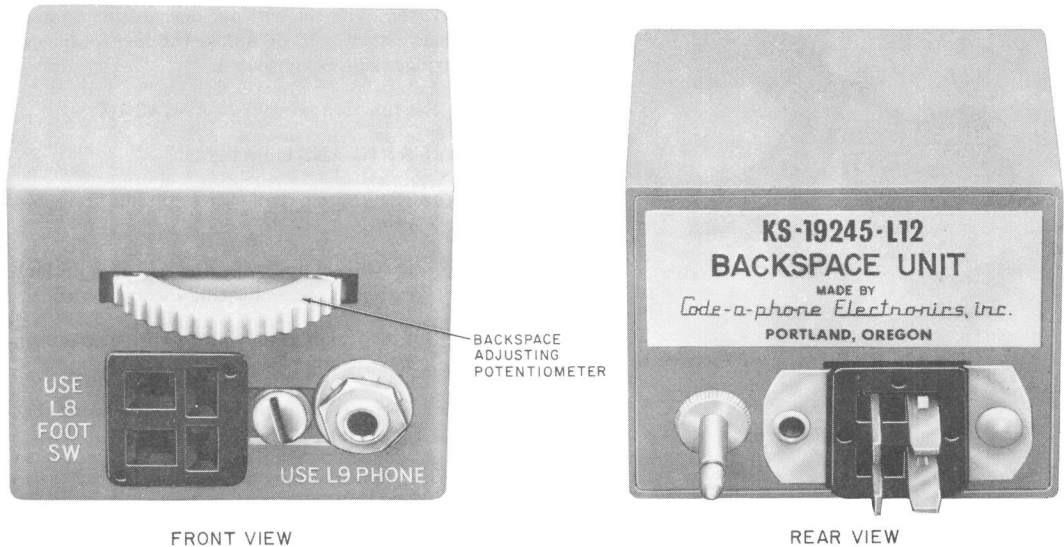

Fig. 19—KS-19245, List 12 Backspace Unit
(Fig. 19), allows automatic backspacing of the message tape a few words each time the playback activated control on the foot switch pedal is released. The user can control the amount of backspace (up to approximately 12 words) by adjusting the backspace control. Automatic
4.17 Backspace Unit KS-19245, List 12 (Fig. 19): Perform the following.